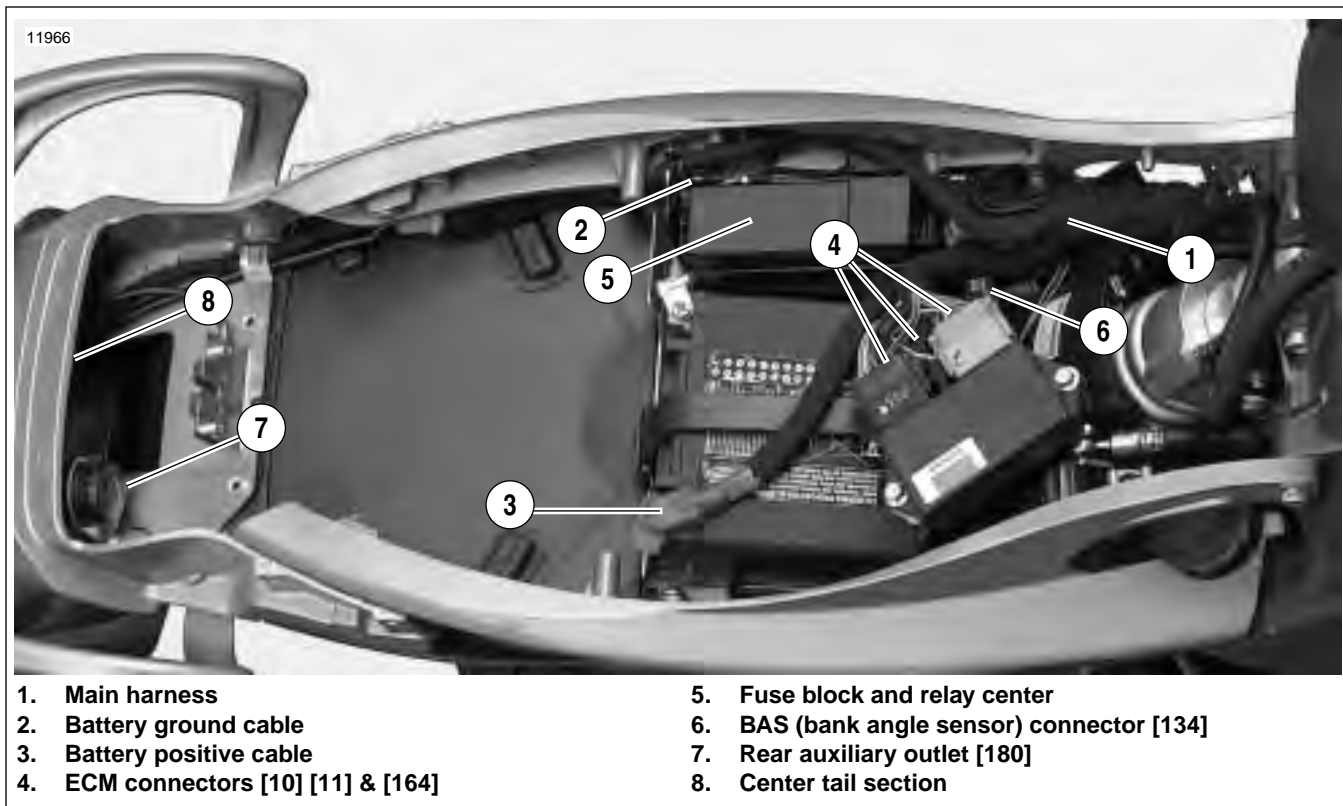

Figure 7-88. Main Harness and Electrical Connectors Under Seat
See Figure 7-88. Always align harness when installing in the frame and tail section. Align the harness so both ECM wire bundles, the dyno loop and the main ground all face upward so when they are installed the harness will not be twisted.
26. See Figure 7-88. Connect: